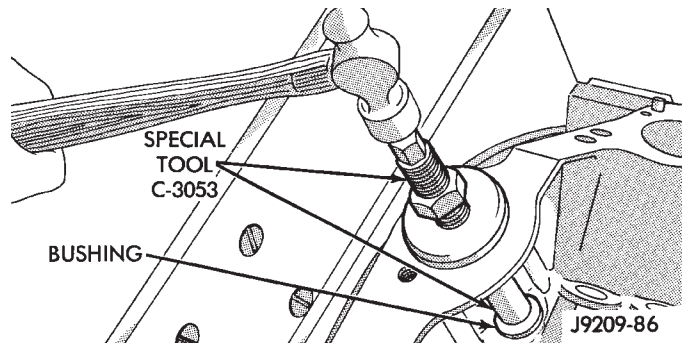

Fig. 22 Distributor Driveshaft Bushing Installation
- (1) Slide new bushing over burnishing end of Distributor Drive Shaft Bushing Driver/Burnisher Tool C-3053. Insert the tool and bushing into the bore.
- (2) Drive bushing and tool into position, using a hammer (Fig. 22).